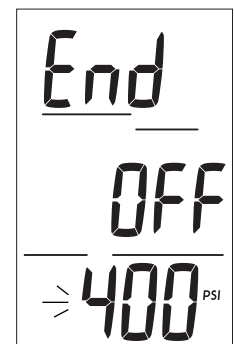

Fig. 26 - Set END AL
**Set End Pressure Alarm**, information includes (Fig. 26):